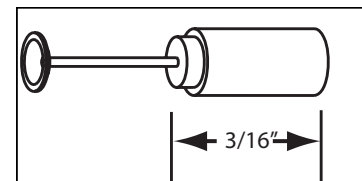

Fig 3
- 3) Remove brushes from brush box and inspect length. If brush length is $3/16''$ or less then brushes need to be replaced (Fig 3).